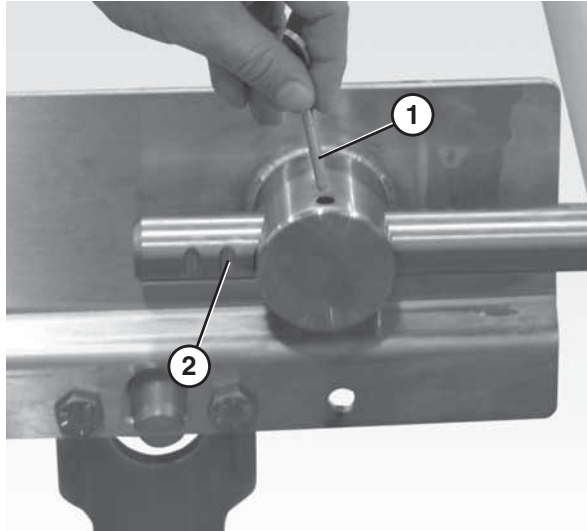

Figure 67
1. Remove both pull pins (**Figure 67, item 1**) on the tension end of the conveyor.
2. Extend the idler tail to the next groove (**Figure 67, item 2**) on the bearing shaft.